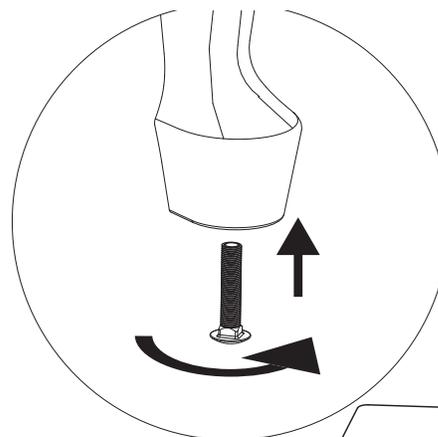

Figure 23.3
NOTE: If installing a floor installation of an outside air kit on a Step Top model with a pedestal assembly you must attach the enclosed cover plate with 4 screws to the back of the appliance. Other wise you may discard this piece (**Figure 23.3 on page 23**).
7. Use leveling bolts on legs to stabilize and level appliance (**Figure 23.3**).